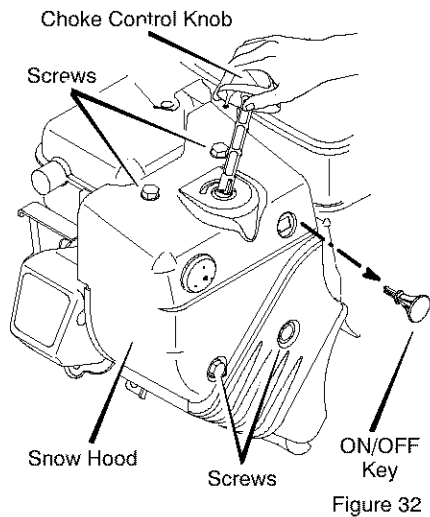

Figure 32
1. Remove the choke control knob (see Figure 32).